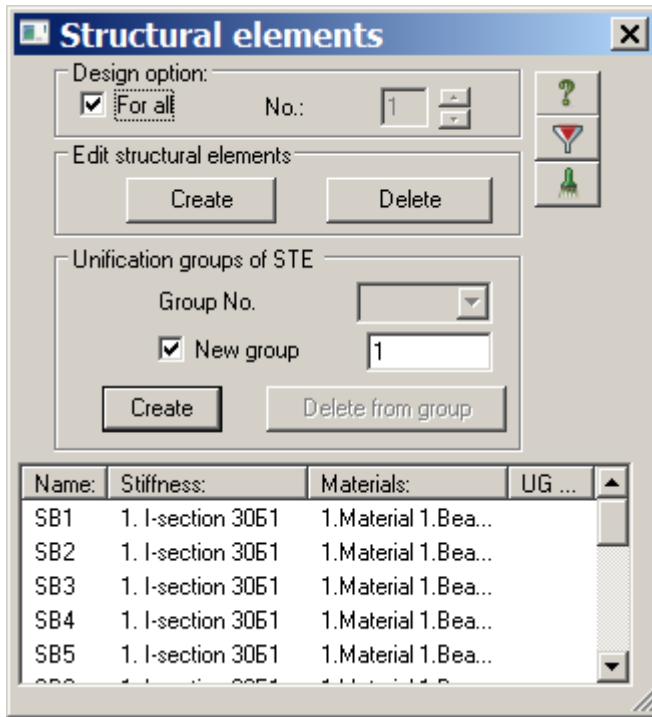

Figure 4.32 Structural elements dialog box
- ⇒ In the **Structural elements** dialog box (see Fig.4.32), under **Design option**, select **For all** check box. Then under **Edit structural elements**, click **Create**.